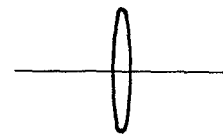
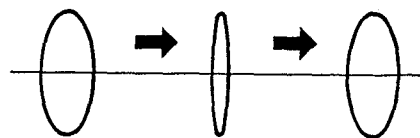

Fig. 1
Fig. 2
6. Adjust the grating to minimize the amplitude in the X direction of the Lissajous wave form. (Fig. 1)
8. When the Lissajous wave is a bulging ellipse between Frame #1 and Frame #500, slightly loosen the spindle motor screw shown in connection diagram (2), then adjust the core extension for the LD spindle motor.
- 8-2 Check the Lissajous wave form. Turn Angular Screwdriver I slowly to minimize the X direction of the Lissajous wave form, then turn Angular Screwdriver I to obtain the same Lissajous wave form as before. (Fig. 2)